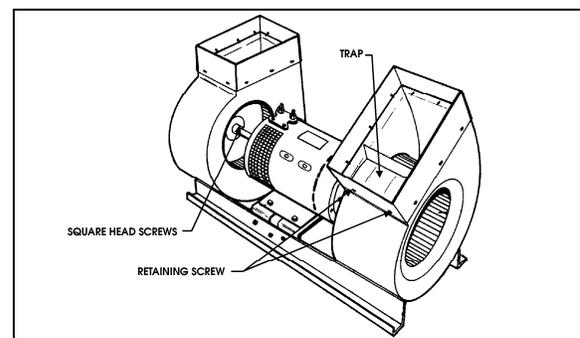

FIGURE 16: EVAPORATOR MOTOR ASSEMBLY
6. From under the vehicle, remove the eight bolts retaining the evaporator fan motor support. Remove the complete unit from the evaporator compartment (Fig. 16).